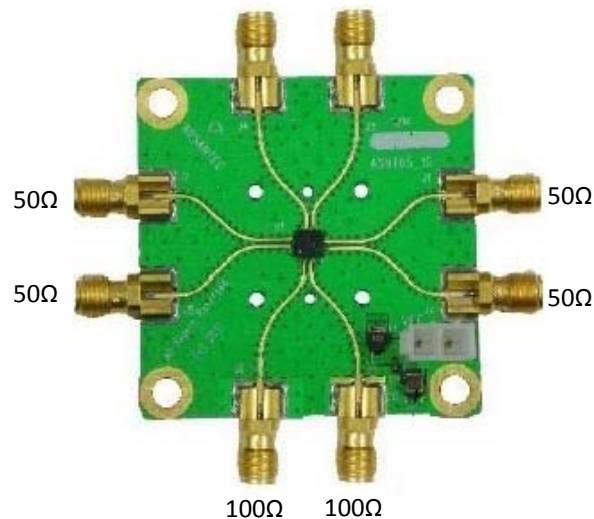

Fig. 2. Impedance of I/O Connectors
2. Measure the resistance of all connector pins to VCC, including the power supply, while making sure the board is grounded. All high speed I/O ports should measure 50Ohms while on the power supply connector, VEE should be high impedance and GND should be a short. icntp/icntn should measure 100Ohms. Fig. 2 shows the resistance values of the described I/O connectors.
- Measure the resistance of all connector pins to VCC, including the power supply, while making sure the board is grounded. All high speed I/O ports should measure 50Ohms while on the power supply connector, VCC should be a short, and GND should be high impedance. icntp/icntn should measure 100Ohms. Fig. 2 shows the resistance values of the described I/O connectors.